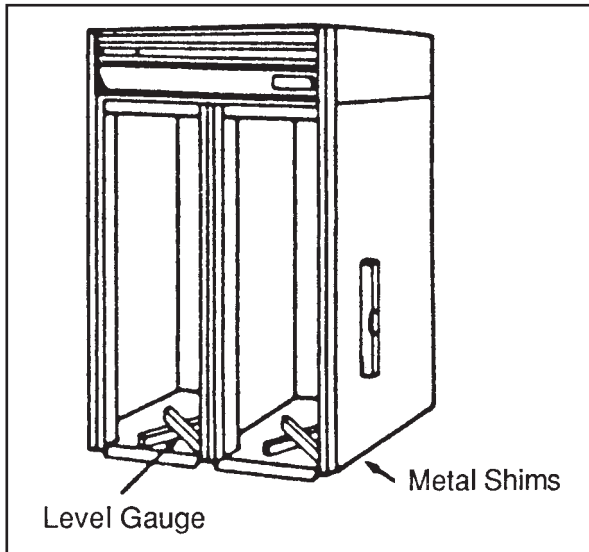

Figure 2-8
2. Level unit, inserting metal shims under unit where required. It is important that an accurate carpenters level be used when leveling cabinet. See Figure 2-8.